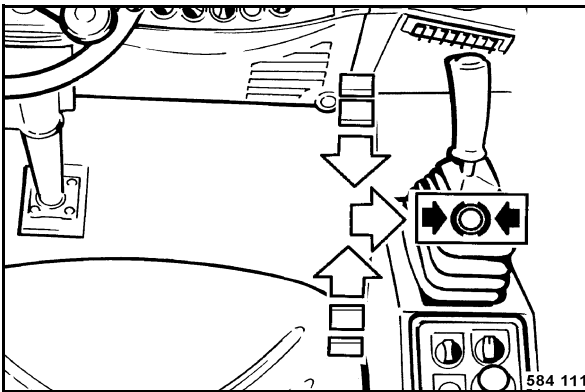

Fig. 59
- Return the travel lever (Fig. 59) slowly to "neutral"-position and engage it to the right in braking position.